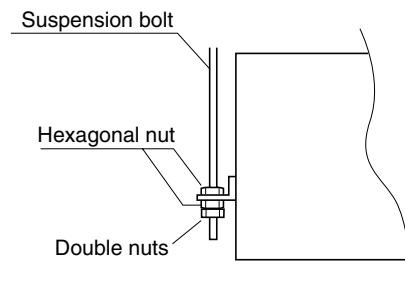

**Fig. 3-137**
- Use existing ceiling supports or construct a suitable support as shown in Fig. 3-137.